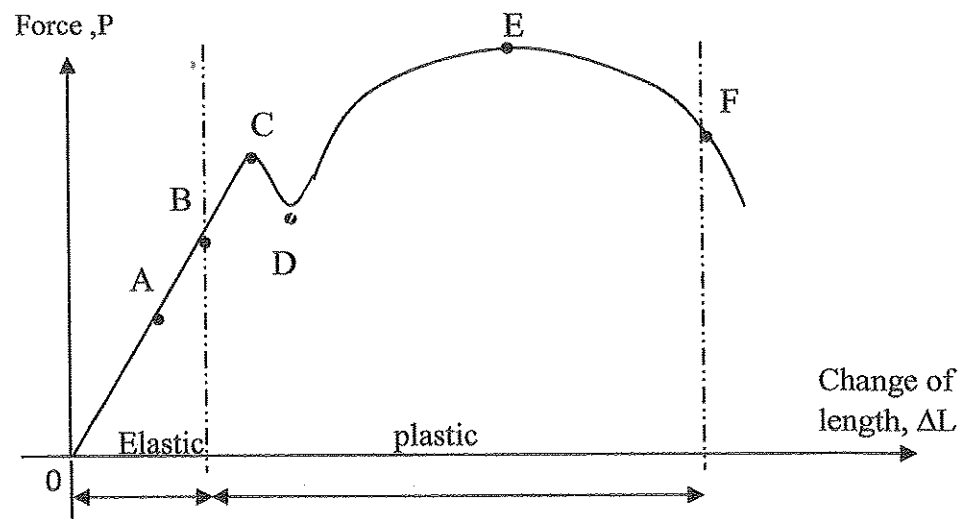

Figure 1(a) / Rajah 1(a)
- (a) Identify each point shown in Figure 1(a) below.